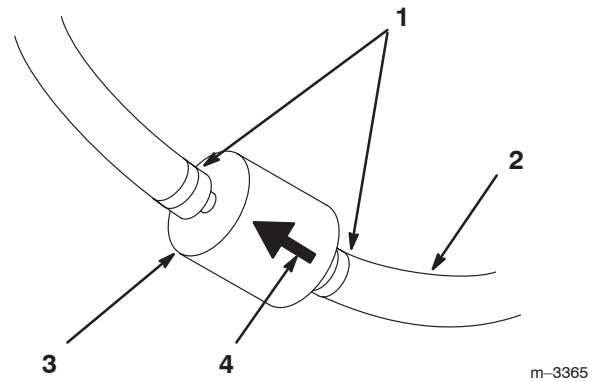

Figure 42
5. Squeeze the ends of the hose clamps together and slide them away from the filter (Fig. 42).